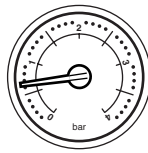

Fig. 3
1. Ensure that the electricity and gas supplies are turned on. Check that the central heating pressure is between 0.5 and 1.0 bar (Fig. 3).